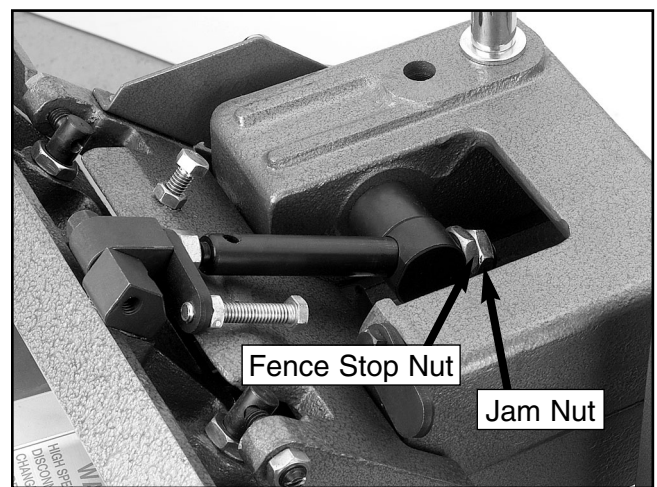

Figure 30. 45° inward fence stop jam nut.
2. Loosen the jam nut shown in **Figure 30**.